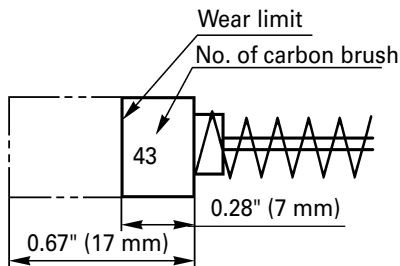

Fig. 17
4. Inspecting the carbon brushes: (Fig. 17)
Use HITACHI carbon brush No. 43 indicated in Fig. 17